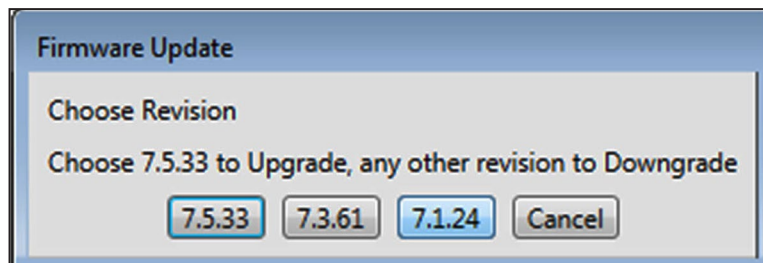

Figure 42. The Firmware Update Choose Revision dialog box for selecting the firmware version.
- STEP 14.** When the Firmware Update Choose Revision dialog box appears, select the desired firmware version. See Figure 42.